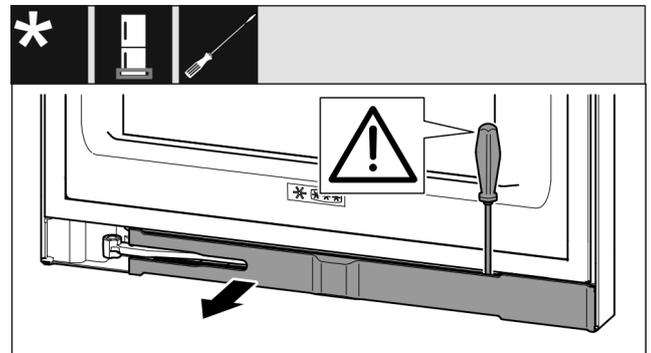

Fig. 17
- ▶ Use a slotted screwdriver to unlatch the trim and swing it to the side. (see Fig. 17)